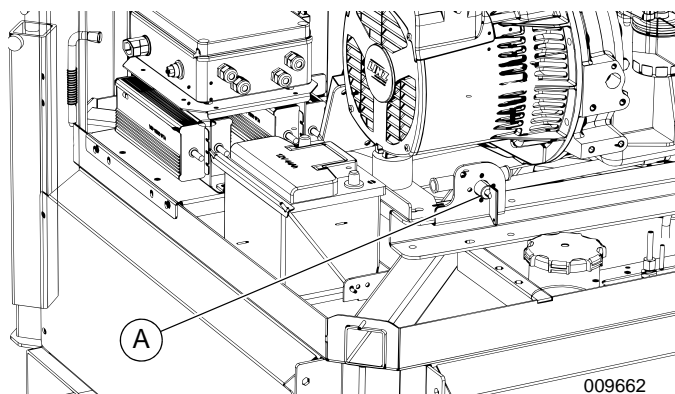

Figure 3-12. Battery Disconnect Switch
See Figure 3-12. The unit is equipped with battery disconnect switch (A). This switch removes the battery from the electrical circuit without disconnecting the battery cables.